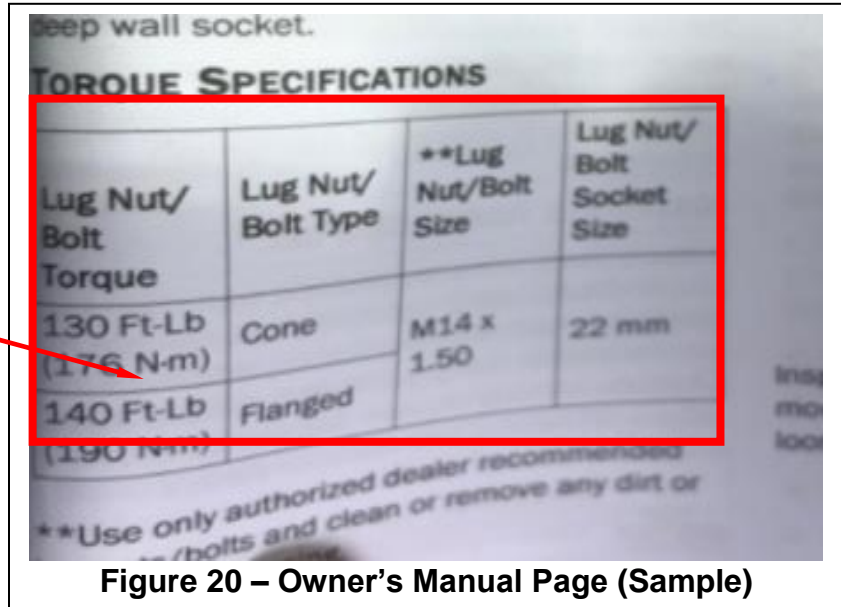

Figure 20 – Owner’s Manual Page (Sample)
1. Obtain the owner's/user's manual from the vehicle's glove box, and attach the adhesive label over the existing wheel lug nut torque specifications section. Staple the addendum card onto the same page of the manual and reinstall owner's/user's manual into the glove box (Figure 20).